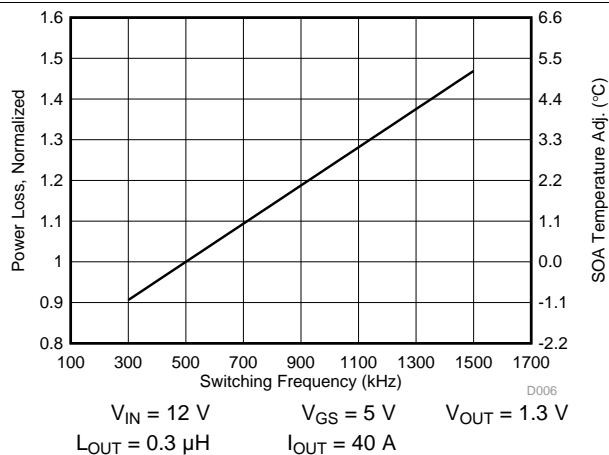

Figure 4. Normalized Power Loss vs Switching Frequency
- Normalized power loss for switching frequency ≈ 1.21 (Figure 4)